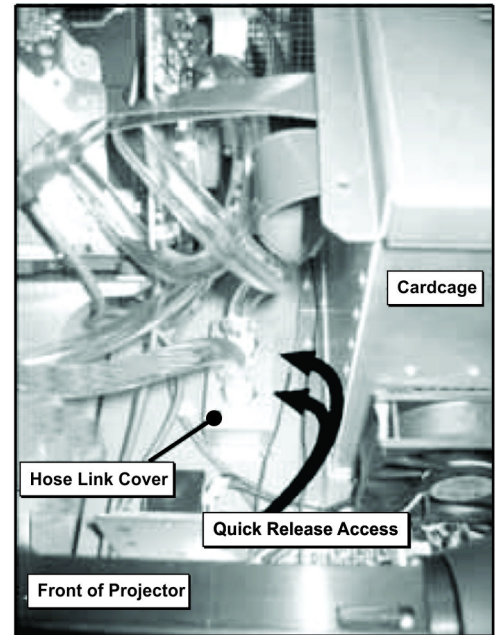

Figure 3 Disconnect Reservoir Hose (CP2000-X/-XB shown)
Disconnect the reservoir hose ONLY at the quick coupling connector in the light engine area (**Figure 3**), as follows:
1. Follow the route of the reservoir hose directly from the reservoir to the hose link cover in the light engine area (**Figure 3**). **NOTE:** Reservoir hose quick coupling connection location may be different in the various projector models. Ensure that you disconnect the reservoir hose and NOT the heat exchanger hose.
2. Standing on the lamp side of the projector, reach between the cardcage and the hose link cover and into the finger access hole (quick release access label, shown in **Figure 3**).
4. Gently pull the reservoir hose free at the underside of the projector. **NOTES:** **1)** For better access on the CP2000-X/-XB and Roadie 25K/HD+30K/HD+35K, you may want to remove the small hose link cover shown in **Figure 3** (4 screws) to increase visibility, particularly for re-connection. **2)** Have a rag handy as you disconnect the hose to catch any drips.